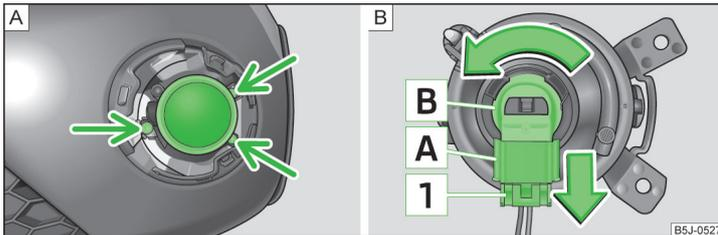

Fig. 167 Front bumper: Fog lights/fog lights: Replacing the light bulb
- › Unscrew the screws » Fig. 167 - **A** with the screwdriver » page 166, *Vehicle tool kit*.
- › Press the locking tab **1** » Fig. 167 on the connector **A** and remove the connector from the bulb holder **B**.